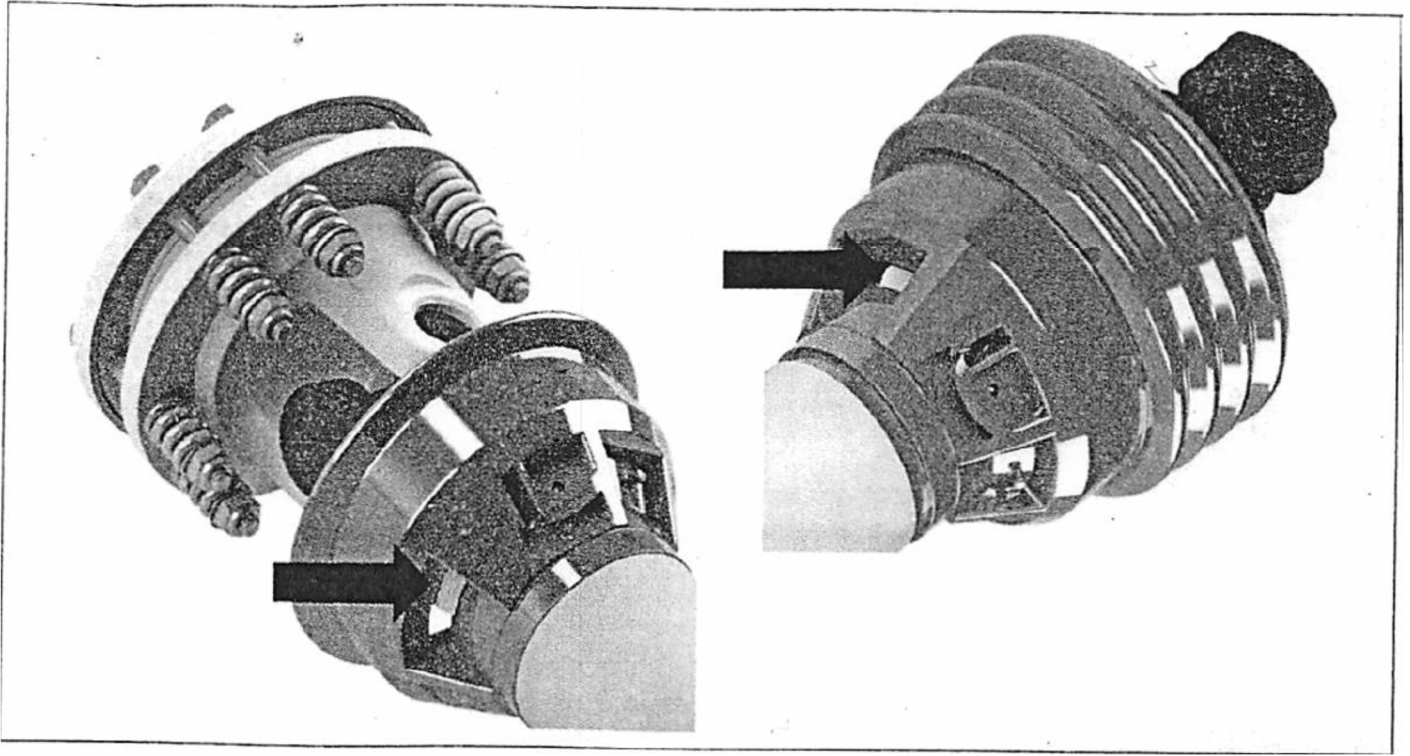
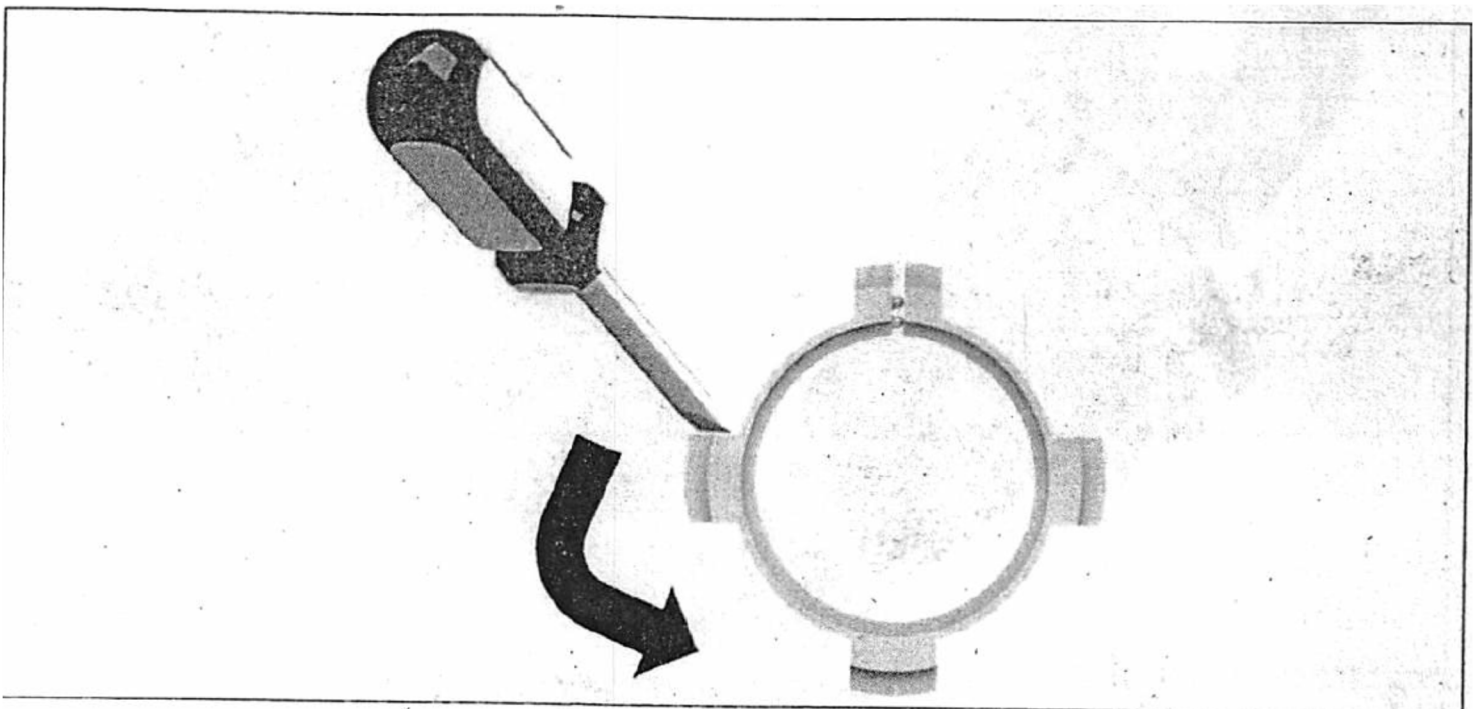

Figure 13 (Step 3)
Figure 14 (Step 3)
3). With the bearing clips disengaged, locate the bearing tabs at either ends of the drive line (Figure 13). Insert a flathead screwdriver in the groove indicated in (Figure 14), below. Rotate the bearing tab approximately an eighth of a turn in the counter clockwise direction.